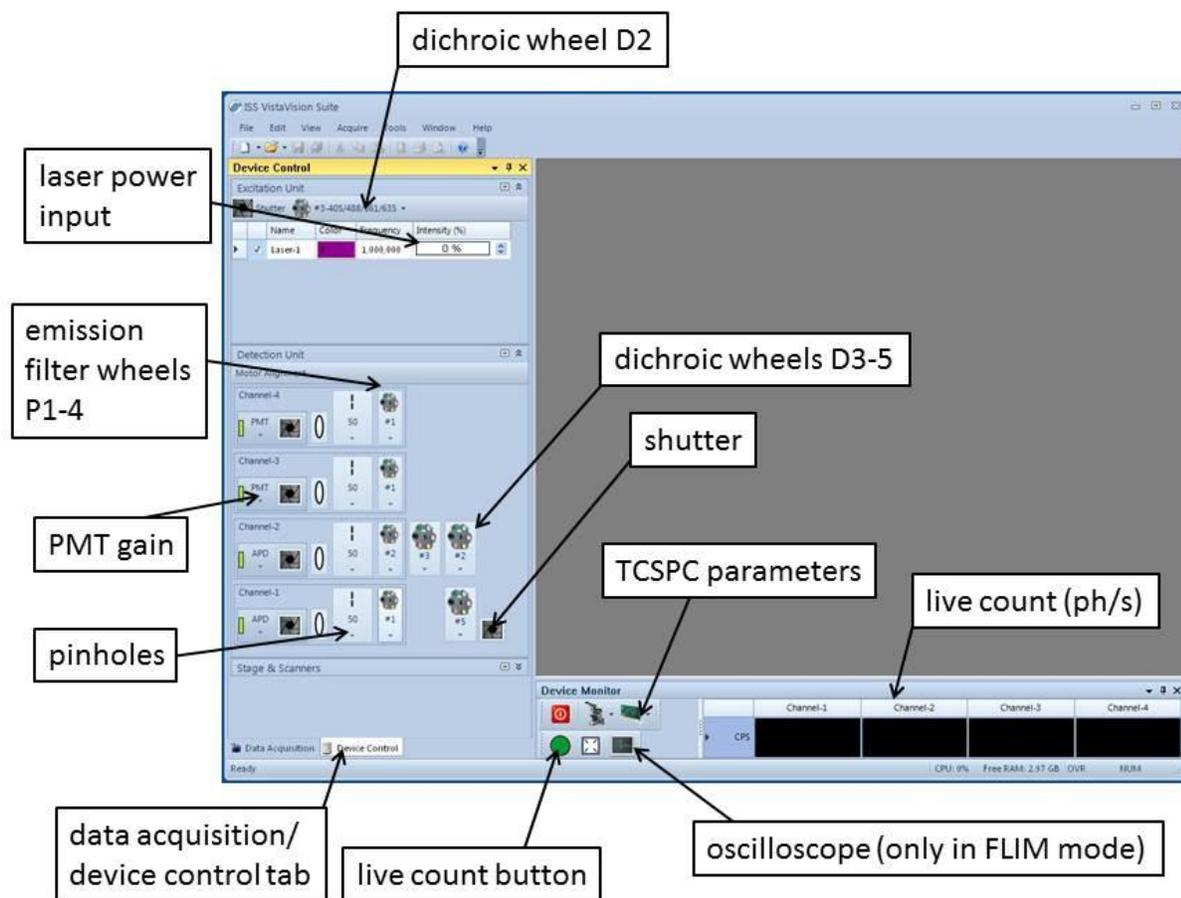

Fig. 4: Device control mode and general layout
3. Layout (**Fig.4**):
4. Device control mode (**Fig.4**): used to choose and align optical components